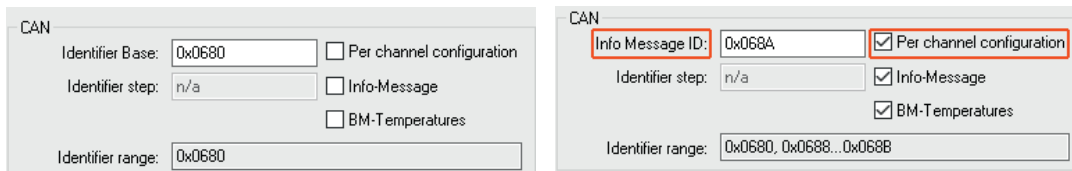

Fig. 6-39: Device configuration dialog, dialog section **CAN**
- ▶ The name of the **Identifier base** field changes into **Info Message ID** (Fig. 6-39). This field then displays the start ID of the optional CAN message that has been activated first.